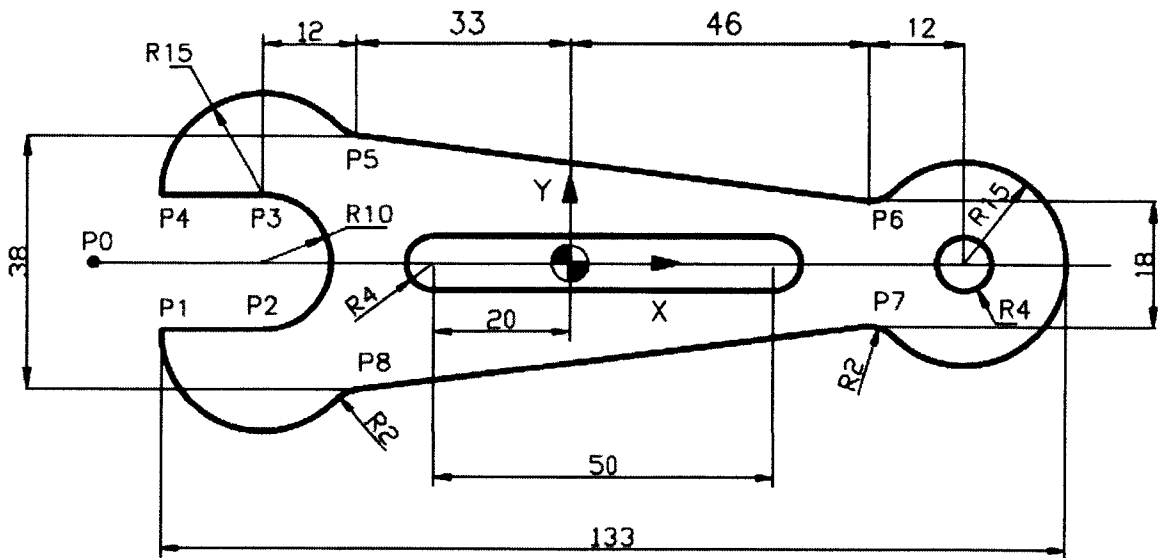

FIGURE 2
- (d) The KEY shown in **Figure 2** is to be machined on a CNC machining center. Construct a CNC program to drill a hole $\text{Ø} 8$ mm at 15 mm depth, cuts the slot at 4 mm depth and the external profile at 4 mm depth, using the cutting conditions shown in **Table 2**. (12 marks)
- (c) Consider yourself as a process planner, you are assigned to fabricate the product as shown in **Figure 2**. Develop the process plan for that particular product. (13 marks)